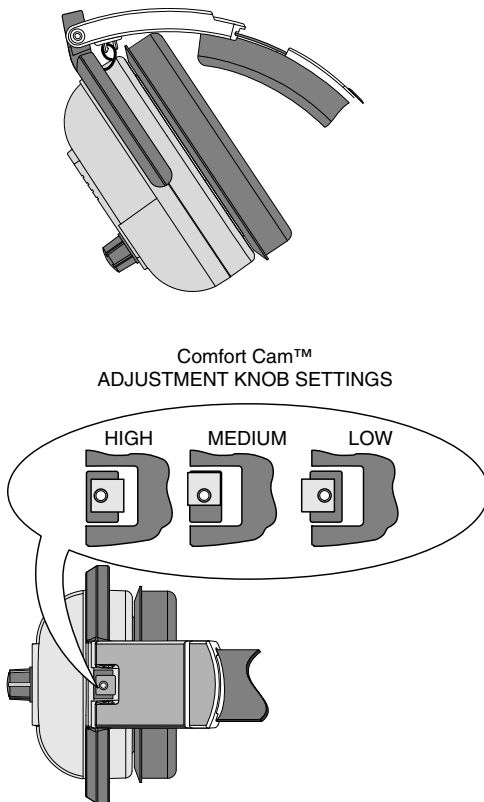

FIGURE 2. Headband Pressure Adjustment
1. Fold the **earcup** in as shown in Figure 2.